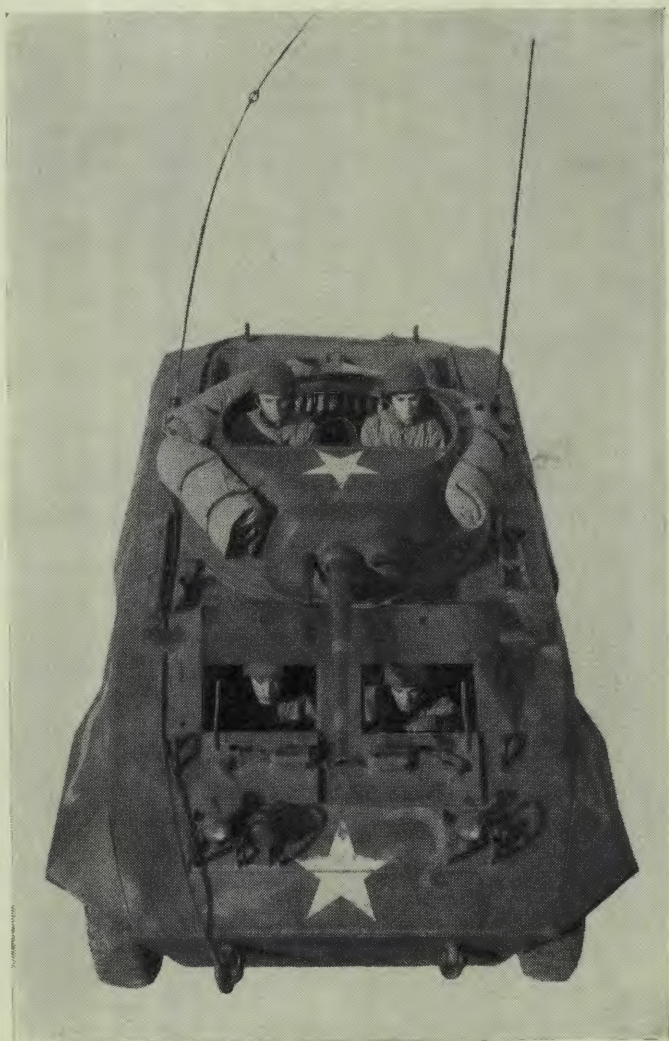

FIGURE 4.—Crew at MOUNTED POSTS.
*b. Mounted posts.*—The crew forms mounted as follows (see fig. 4):
- (1) *Car commander.*—On the right side of the turret, standing on the floor, or sitting or standing on the turret seat.
- (2) *Radio operator.*—In the assistant driver's seat.
- (3) *Driver.*—In the driver's seat.
- (4) *Gunner.*—On the left side of the turret, standing on the floor, or sitting or standing on the turret seat.